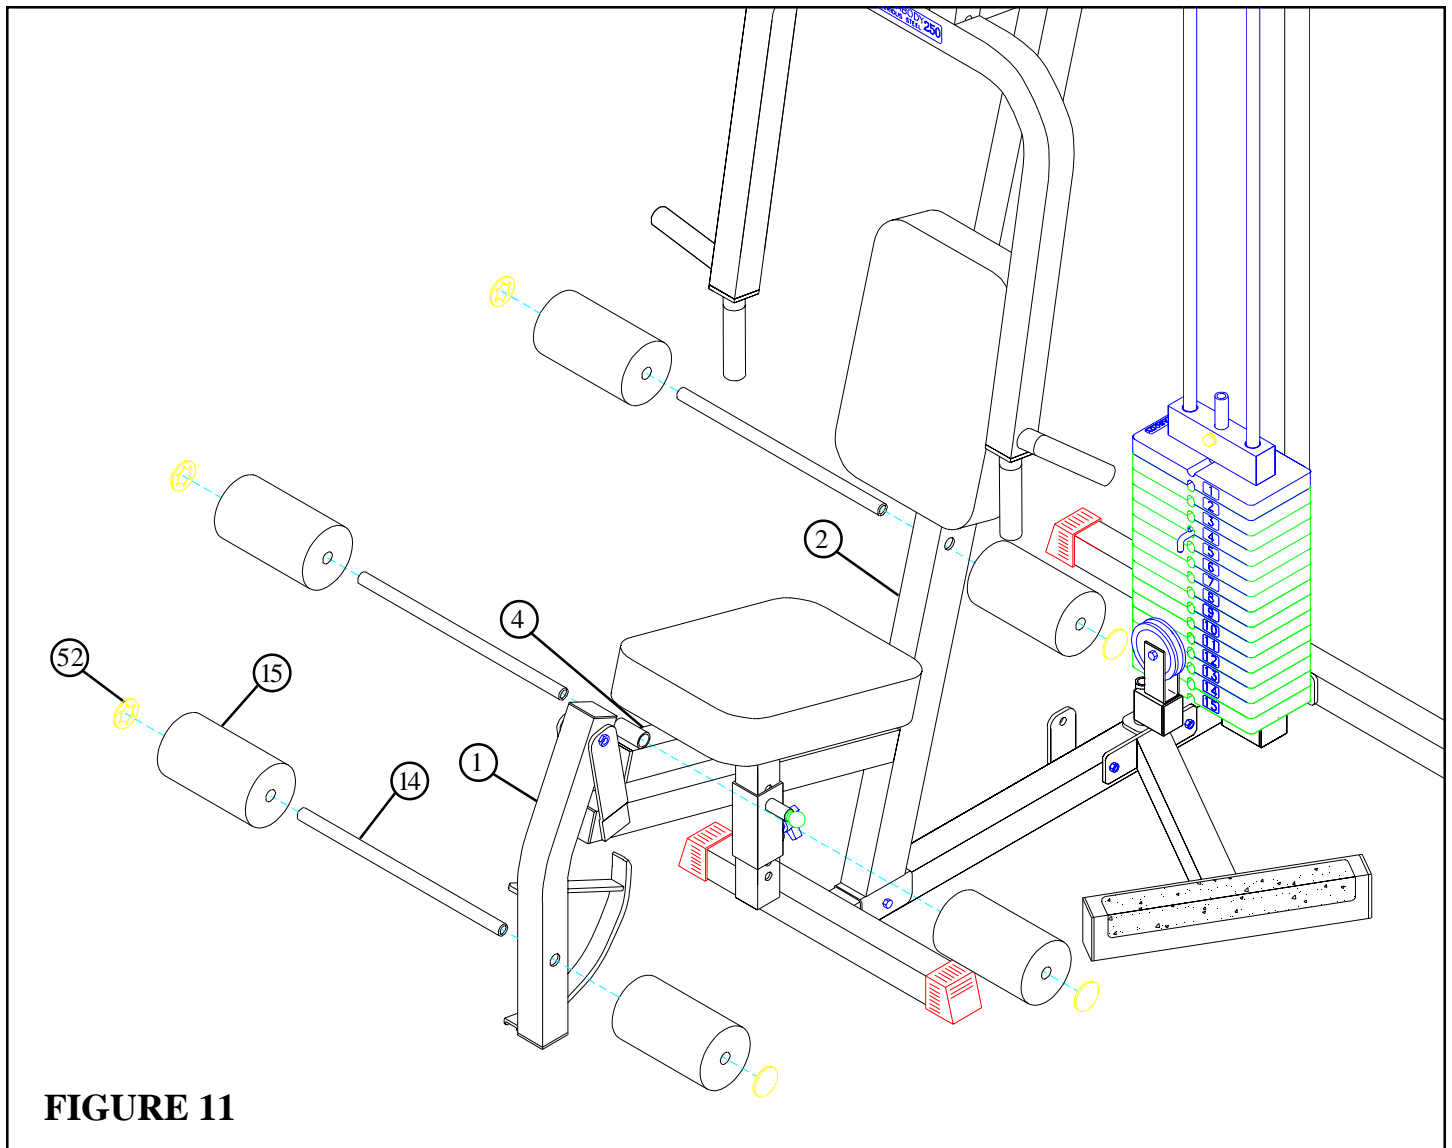

**FIGURE 10**
- Securely assemble the CALF BLOCK (10) to the BASE (8) using two 3/8 X 2-3/4" BOLTS (48), two 3/8" WASHERS (38), and two 3/8" LOCK NUTS (41) as shown in FIGURE 10. (Note: The CALF BLOCK can be assembled to either side of the BASE.)
- Apply the 4 X 14" NON-SKID STRIP (22) to the outside of the CALF BLOCK (10) as shown in FIGURE 10.
- Assemble the SWIVEL PULLEY BRACKET (5) to the BASE (8) using one 1/2" LOW HEIGHT LOCK NUT (42) as shown in FIGURE 10. (Note: Tighten this connection enough to remove excess play yet allowing SWIVEL PULLEY BRACKET to rotate freely.)
- Securely assemble one 3-1/2" PULLEY (19) to the SWIVEL PULLEY BRACKET (5) using one 3/8 X 1-3/4" BOLT (49) and one 3/8" LOCK NUT (41) as shown in FIGURE 10.